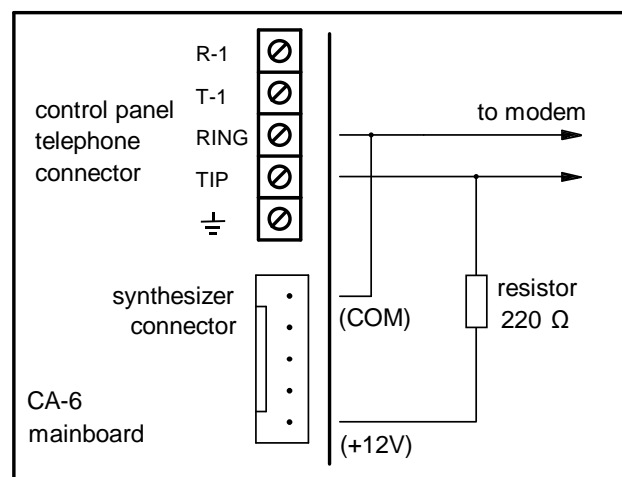

Fig. 14. Connecting control panel to modem for local mode programming.
Interaction with the computer by means of a **modem** can be effected in two ways: in a *remote mode* (through the telephone line) or in a *local mode*. The local mode can be used after connecting the modem directly to the TIP and RING telephone terminals on the control panel (see: Fig. 14).
- connect the computer modem to the “TIP” and „RING” control panel terminals (**the telephone line must be disconnected!** Connections of the “T-1” and „R-1” terminals are irrelevant), and make sure that the polarity of the telephone signal inputs arrangement in the control panel is as shown at the Fig. 14;